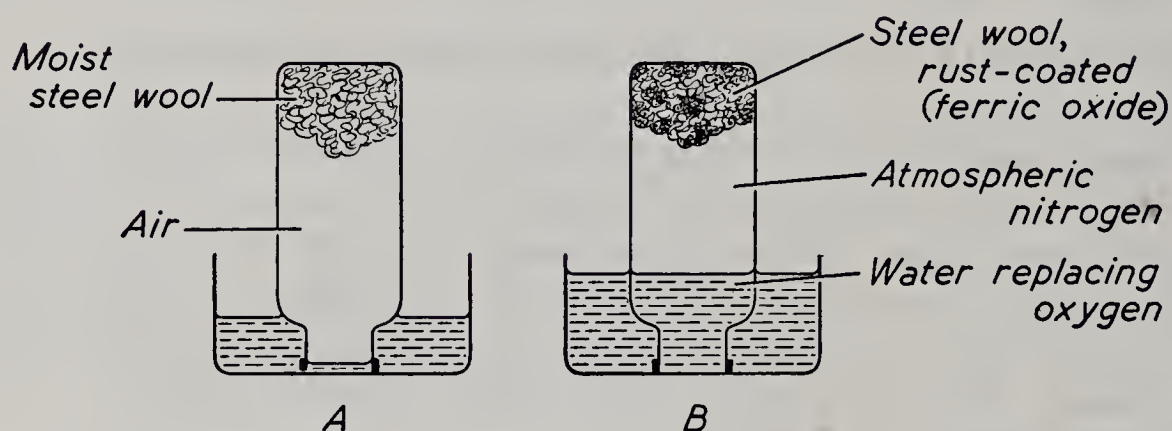

Fig. 26. The rusting of iron in air.
1. Degrease some steel wool by dipping it several times in gasoline. After the gasoline has evaporated moisten the steel with water and push it into a large-mouth bottle (Fig. 26). Invert the bottle in a dish of water and allow it to stand for several days. Record observations from time to time.